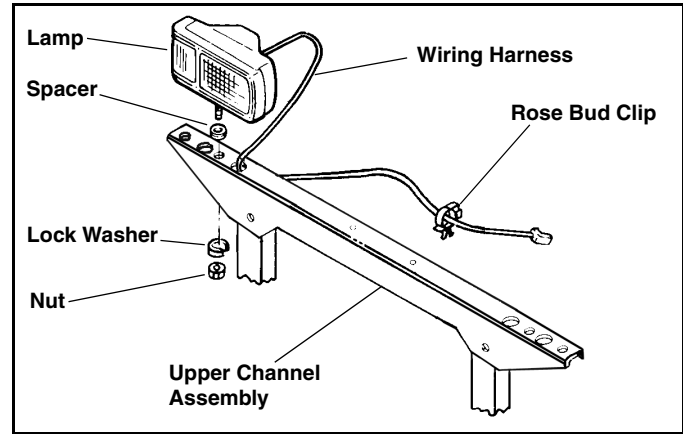

Figure 7
2. Mount Lamps on Upper Channel Assembly using supplied 1/2" lock washers and nuts. (Figure 7)
3. Pass Wire Harness attached to Lamps through holes in Upper Channel Assembly. (Figure 7)
5. Attach Plow section of Wire Harness to Upper Channel Assembly with Rosebud Clips provided. (Figure 7)